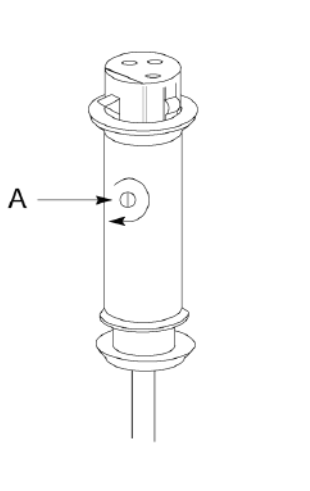

FIGURE 4: A400XLR WITH LOCKING SCREW (A)
3. Snap connector into insert. Extend locking screw through hole by turning screw clockwise, locking XLR connector in place (Figure 4).